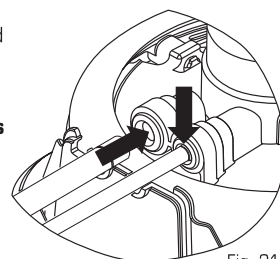

Fig. 21
5. **Insert** the GREEN and BLUE tubes attached to the **eSpring** Auxiliary Faucet into their proper locations on the Bracket (Fig. 21).